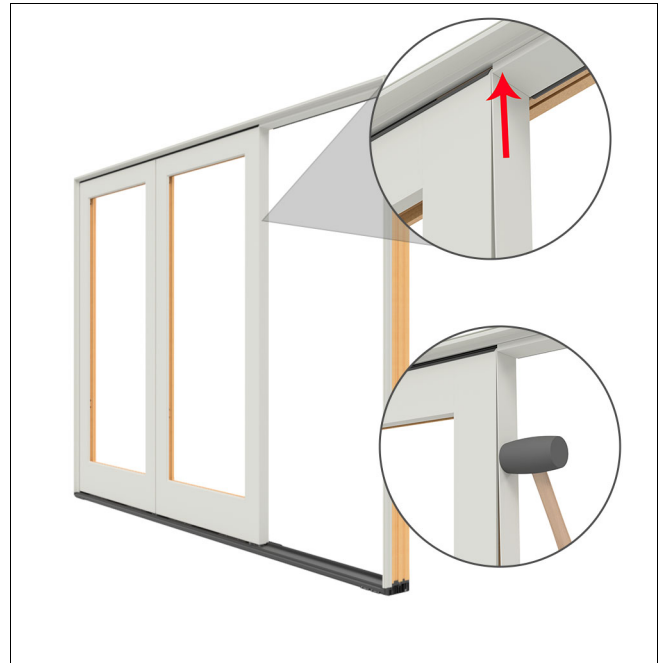

Figure 69
17. Install the aluminum edge cover on the stile of the interlock stationary panel. The cover will snap onto the interlock and edge of the secondary panel. Seat the cover with a rubber mallet. See Figure 69.